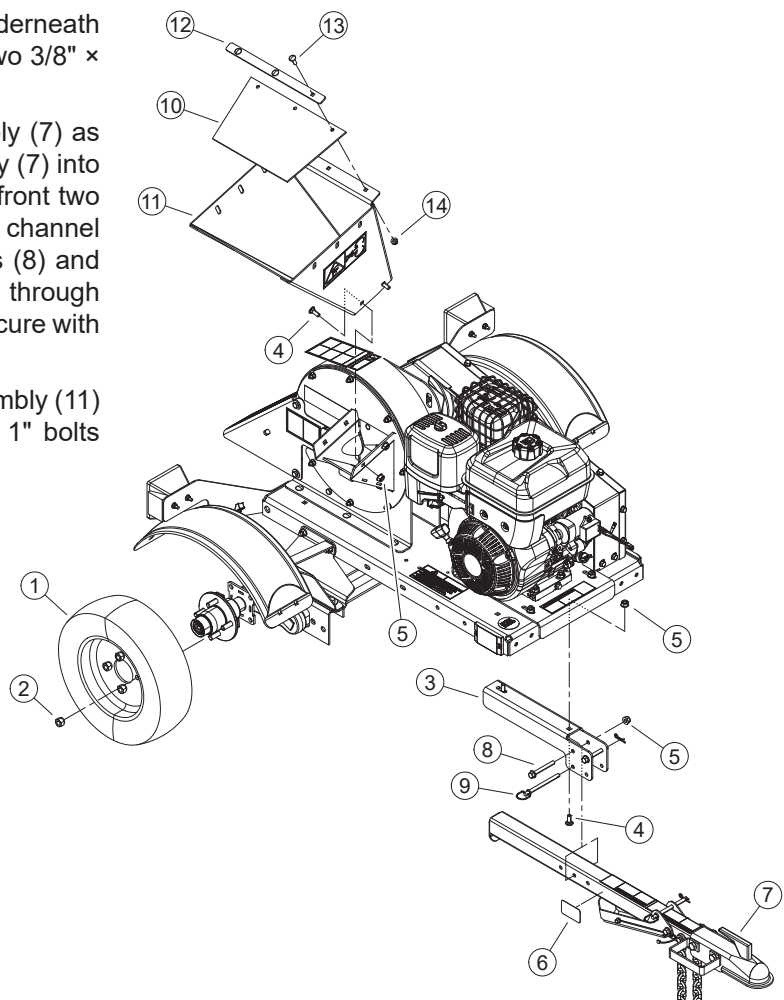

Figure 2.1, Hopper and Hitch Assembly
1. Align wheels (1) with lug bolts on axle hub and secure to hub using four 1/2" lug nuts (2). Using as alternating pattern, tighten wheel into place and torque lug nuts (2) to 75 ft-lbs.
2. Place hitch pole channel (3) in position underneath trailer deck and mount to trailer deck using two 3/8" × 1" bolts (4) and 3/8-16 nylock nuts (5).
3. Apply reflectors (6) to the hitch pole assembly (7) as shown. Next, place entire hitch pole assembly (7) into the hitch pole channel (3) while aligning the front two holes with the top two holes in the hitch pole channel (3) flanges. Secure using two 3/8" × 3" bolts (8) and 3/8-16 nylock nuts (5). Place hitch pin (9) through bottom rear hole of flange (Figure 2.1) and secure with cotter pin.
4. Attach chipper chute flap (10) to hopper assembly (11) using the retaining strip (12), three 5/16" × 1" bolts (13) and 5/16-18 nylock nuts (14).
5. Mount that completed hopper assembly to the chipper housing using four 3/8" × 1" bolts (4) and 3/8-16 nylock nuts (5).